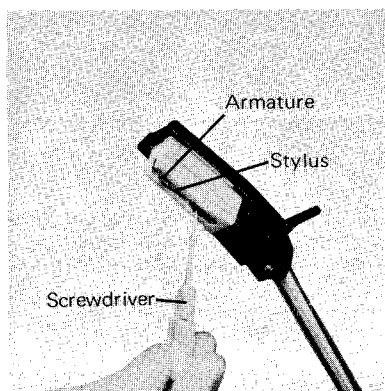

Fig. 38
REPLACING STYLUS (Refer to Fig. 38, 39 and 40)
2. Loosen holding screw and gently remove stylus. (Fig. 38-a)
3. Place the new stylus into position. Be sure stylus lever fits properly into armature. (Figs. 38-b & 38-c)